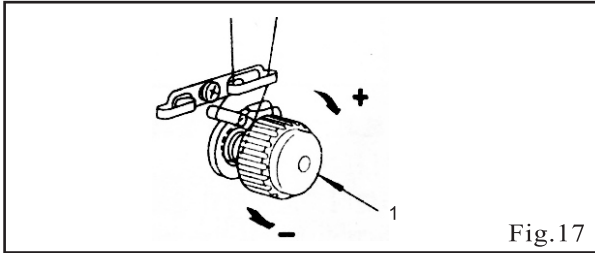

Fig.17
13. ADJUSTING NEEDLE THREAD TENSION (Fig.17)